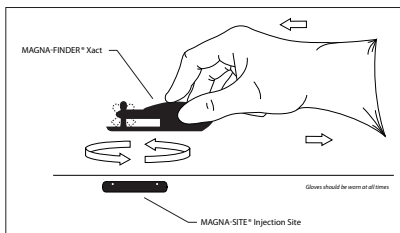

FIGURE 2
- Step 3:** Slowly move the base of the MAGNA-FINDER® Xact locating device in a circular motion (as shown in **Figure 2**) until the magnet of the locating device detects (points towards) the location of the injection site on one plane.